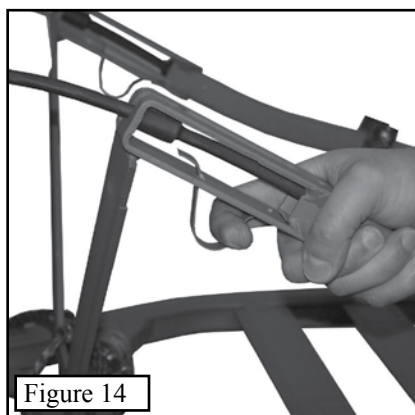

Figure 14
Step 1. Attach the base platform to the tree first. To do this, pull down and hold the QuickDraw cable spring as shown in **Figure 14**. This will release the locking tab from the cable, allowing you to remove it from the cable bracket.